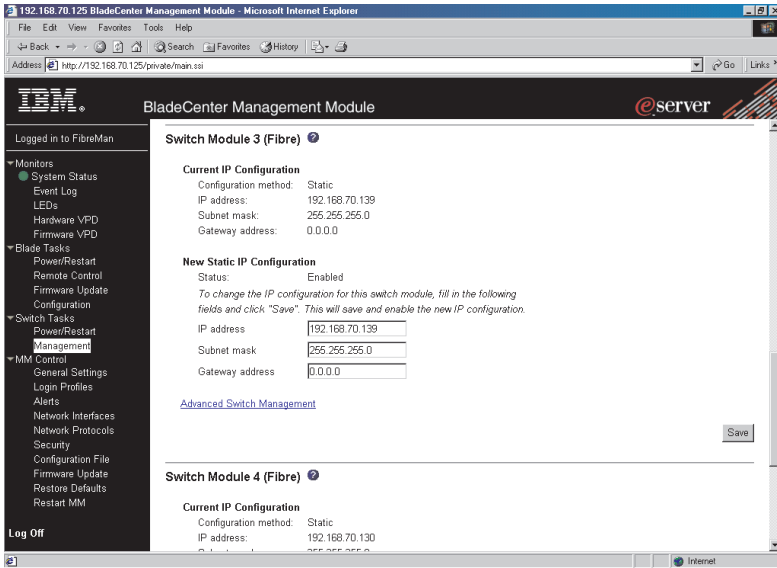

Figure 14. Switch Management window showing switch-module 3 example
5. Click the link for either switch module 3 or switch module 4. A window similar to the one in Figure 14 opens.